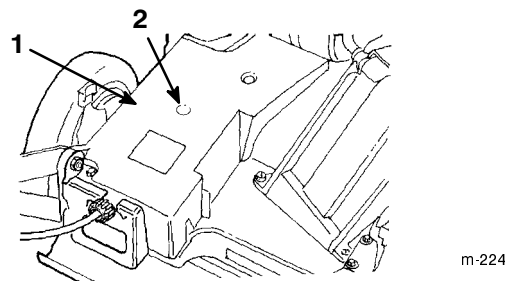

Figure 36
2. Install a grease gun onto the fitting through the belt cover opening (Fig. 36).